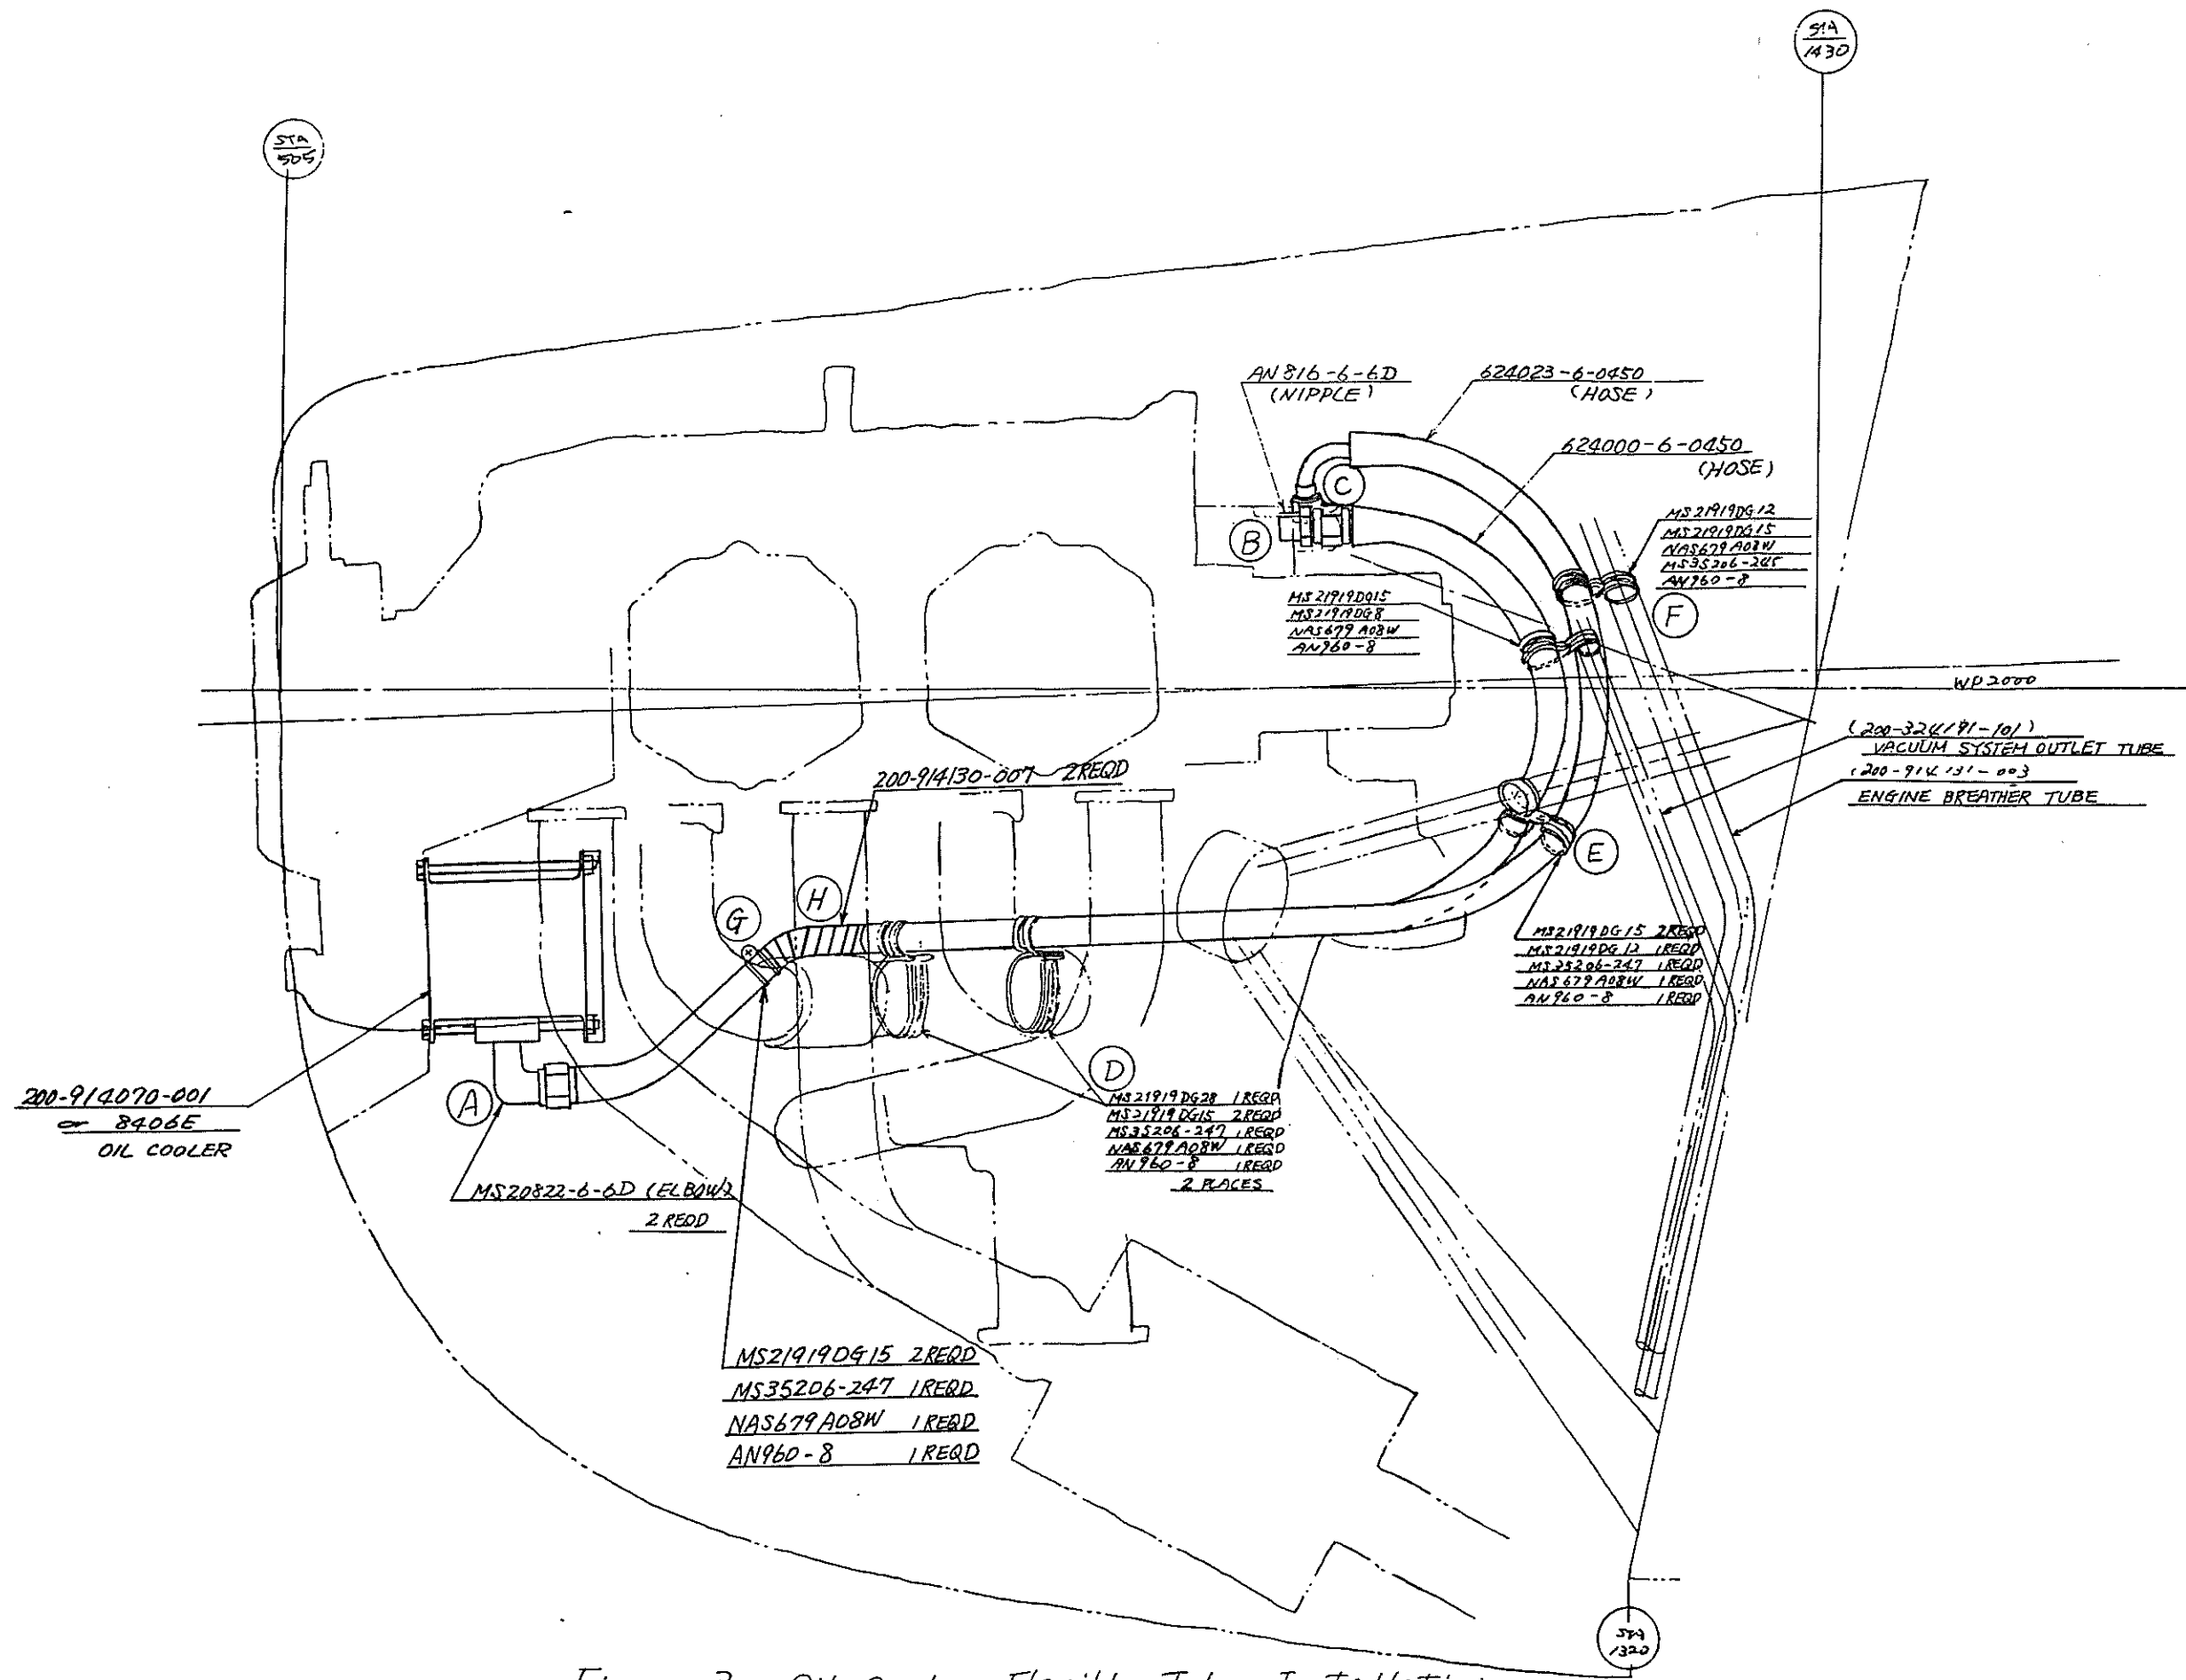

Figure 3 Oil Cooler Flexible Tube Installation.
- (10) Install protector P/N 200-914130-007 around each of the two hoses in the portion where they intersect inlet duct for No.2 cylinder. (Reference figure 3, Area "H".)
- (11) Secure the two hoses together with two clamps MS21919DG15, one screw MS35206-247, one nut NAS679A08W, and one washer AN960-8 as shown in figure 3, Area "G".
- (12) After completion of replacement, check to ensure that the hoses have adequate clearance and are free from chafing.
- (13) Install engine cowlings.
- (14) Check engine oil system for leakage.